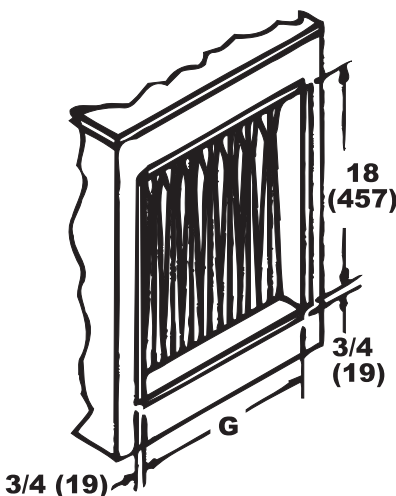

Figure 20. Ductwork Connection Dimensions (Refer to Table 14)
- **Connection dimensions:** connection dimensions (inches (mm)) are shown in Figure 20 and listed in Table 14.
*See Figure 20.